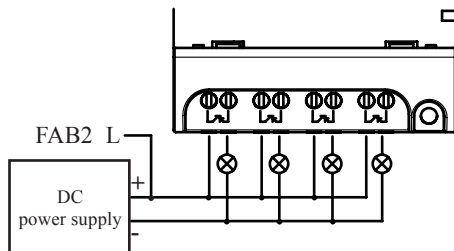

Fig 2.11 Transistor Output(GD type)
2) Type GD connection is shown in Fig2.11,